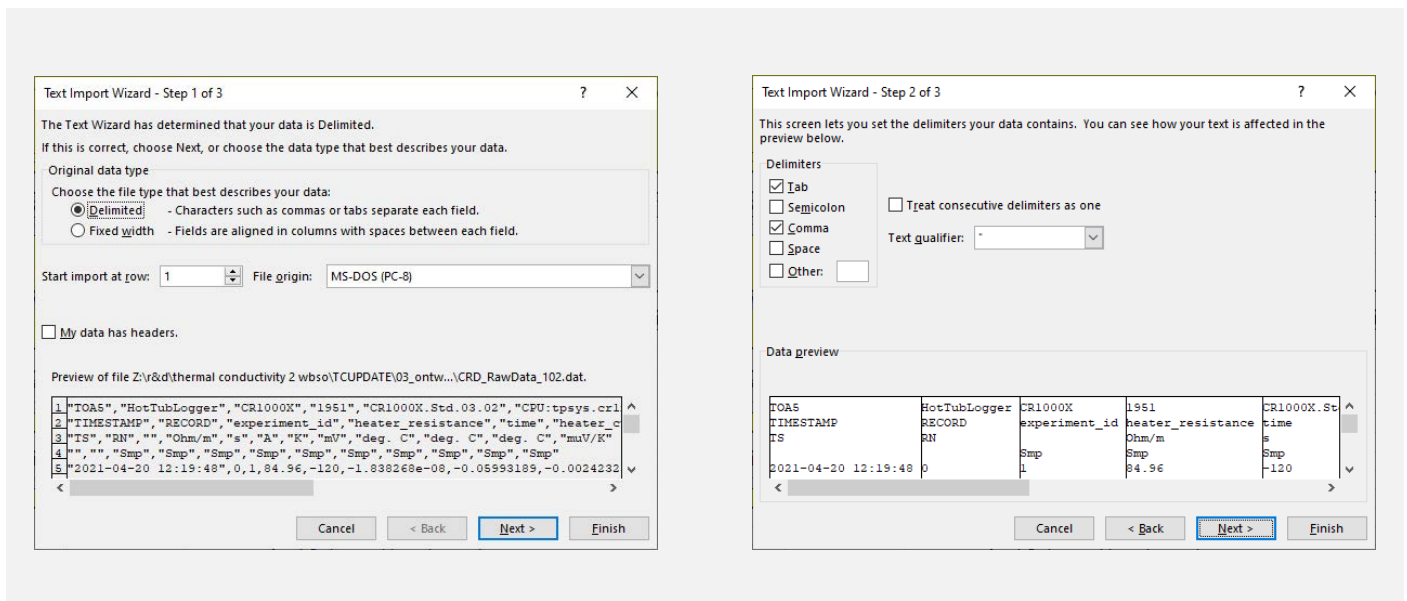

Figure 6.2.1 The first two screens of the MS Excel import wizard.
2. Select the data file containing the data to be analyzed and select "Open". A screen similar to Figure 6.2.1 is displayed. Ensure that "Delimited" is selected and select the "Next >" button.
3. Select the box in front of "Comma" and verify that the columns are shown separated as at the left side of Figure 6.2.1 and select the "Finish" button.
4. This opens the data file similar to Figure 6.2.1.